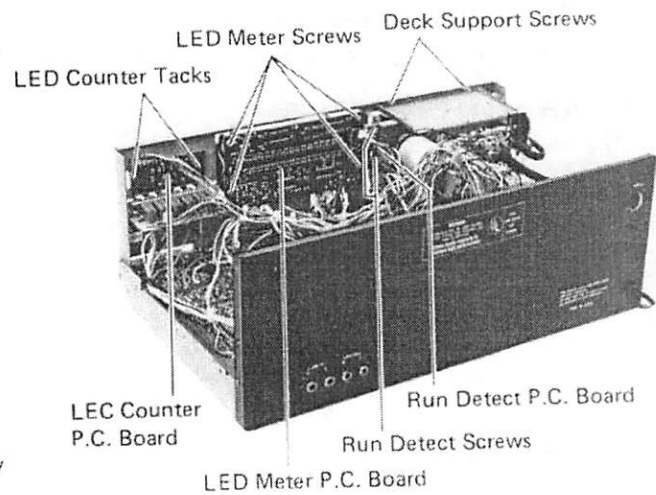

Figure 14
- (1) Remove four screws as shown in Figure 14.
- (2) Disconnect all wires from the P.C. Board.
- (1) Remove two tacks as shown in Figure 14.
- (1) Remove two screws as shown in Figure 14.
- (1) Remove two screws from the deck support as shown in Figure 14.